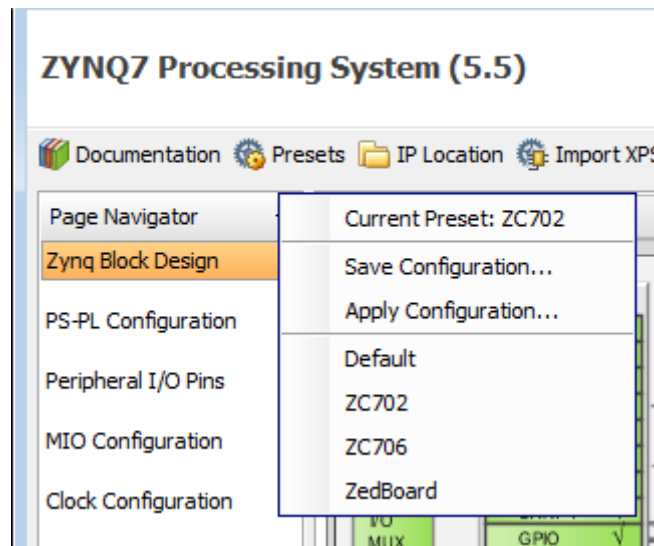

Figure 2-8: Preset Options
- **Presets:** Click this button to view information about the available preset options. User can save the current configuration of PS7 to a file or apply a pre-existing configuration to configure the current instance of the processors. Presets can also be applied to a target board. The available options are Default, ZC702, ZC706, and Zedboard as seen in Figure 2-8.